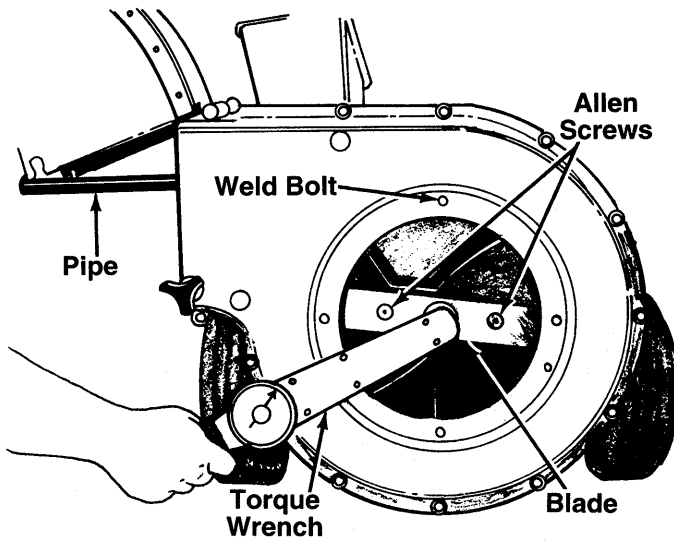

FIGURE 16.—Model 242A645 & 242A648 Shown
2. Lower the leaf ramp. Block up the housing. See figure 16.